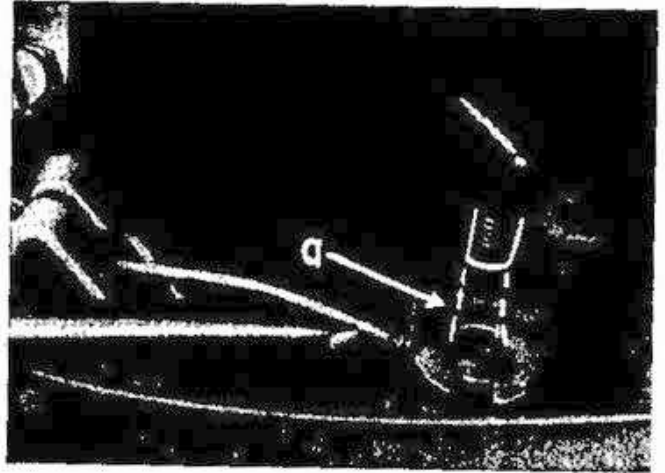

Fig. 15 Pressing
2. Undo cover plate from chamber housing carburetter and remove. Unscrew the 6 metre hexagonal nut (width across flats 10; it will be subsequently designated with SW) from the gear fork shaft. Lift off gear shift lever and spring washer or press out with a screw driver. (see fig. 15)
From engine No. 01 020 008 the gear shift lever (see arrow on fig. 15) is cribed with "top". In addition the bottom eyes for the cable nipples are closed. From engine No. 01 025 053 the slot in the gear shift lever is reduced in width from $7 + 0.022$ mm and eliminates play in the fitting. This gear shift lever can be exchanged with the previous design and carries the part No. 0101-15226-01.
25. Reassemble gear shift lever (marked "top" from engine No. 01 020 008) and tighten thoroughly. The direction of the drive must be transverse to the lug retaining the gear fork shaft (see fig. 15).